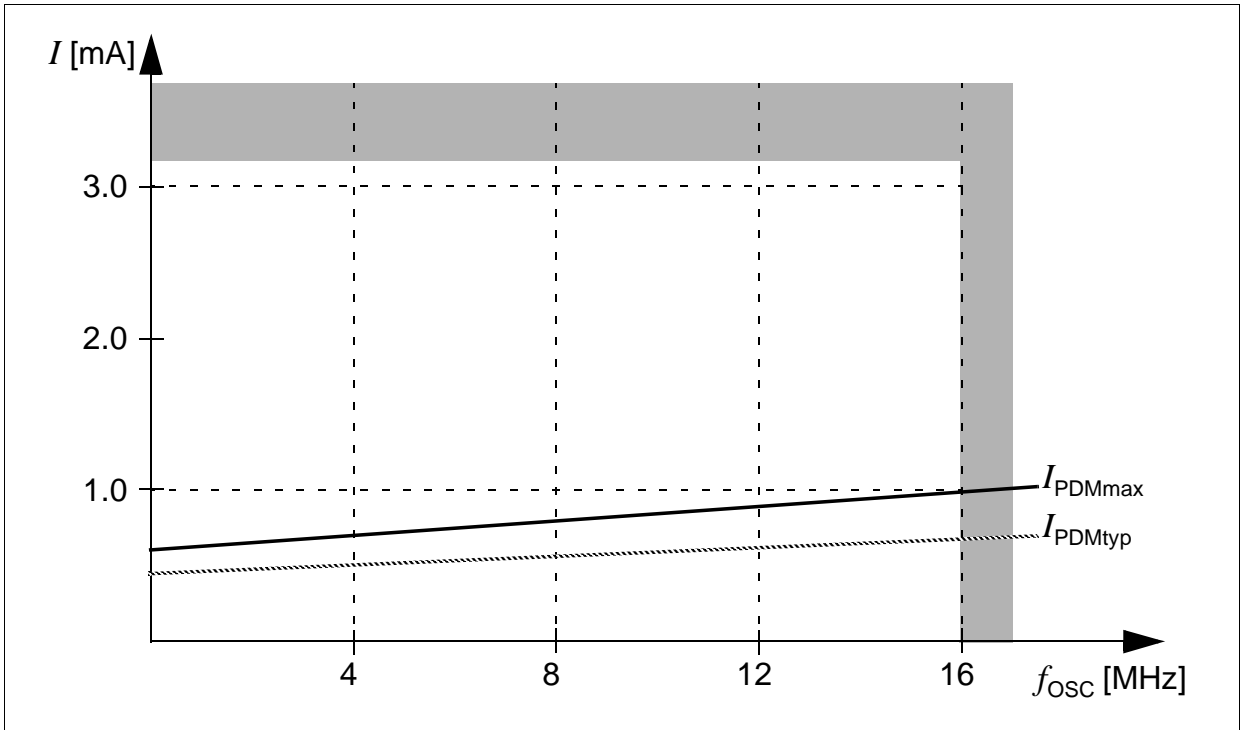

Figure 4-2 Sleep and Power Down Supply Current due to RTC and Oscillator Running, as a Function of Oscillator Frequency
- 7) This parameter is determined mainly by the current consumed by the oscillator switched to low gain mode (see Figure 4-2). This current, however, is influenced by the external oscillator circuitry (crystal, capacitors). The given values refer to a typical circuitry and may change in case of a not optimized external oscillator circuitry.